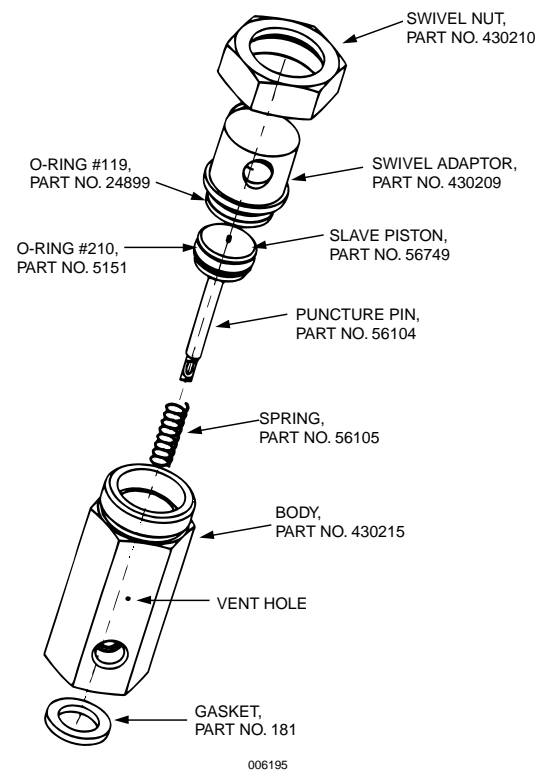

FIGURE 1
► 13. Clean actuator(s) (Part No. 430221) as follows: (see Figure 1)